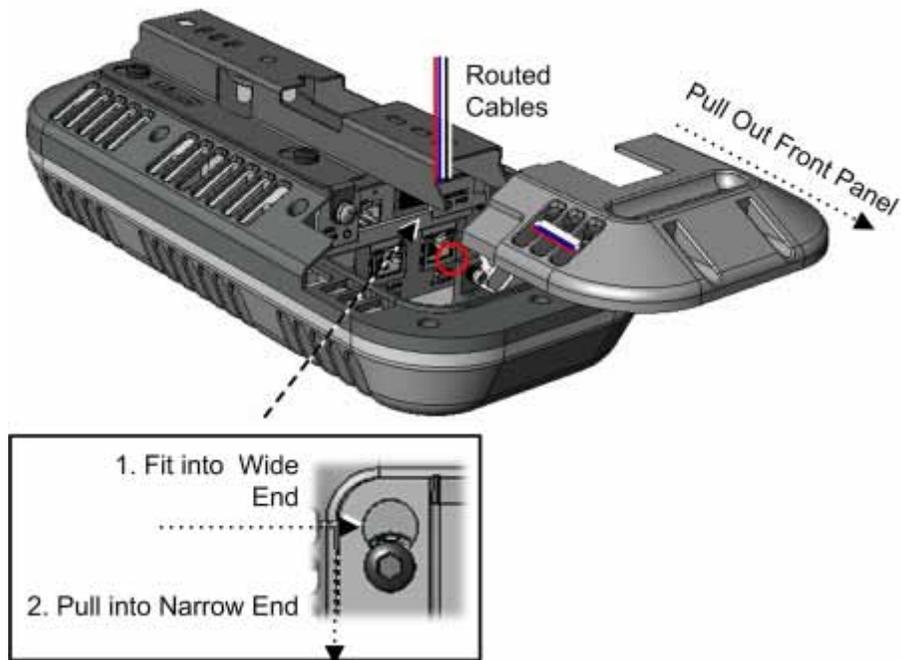

Figure 6-11: Locking GEU-S
Note: The safety screw tab (circled in Figure 6-11) should be in the same direction of the connectors.
2. Route the cables towards the front panel connectors, where the bracket will be located as shown in Figure 6-11.
1. Pull out front panel cover to access connectors. See Figure 6-11.
3. Connect the RJ45 PoE output ports to (2) PoE clients using Ethernet cables.